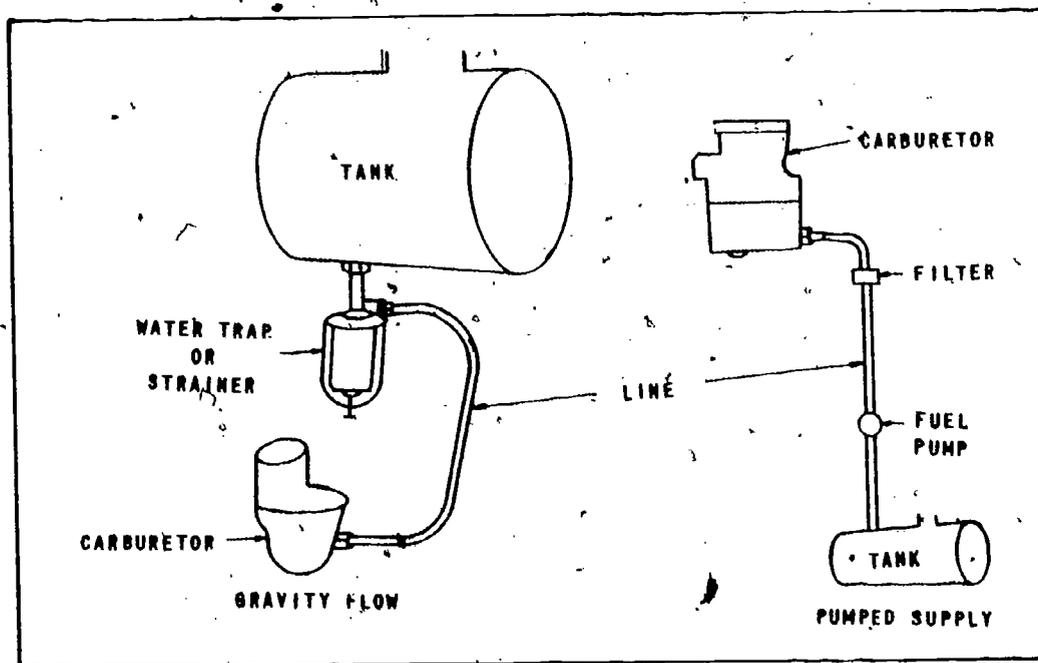

Fig 2-10. Schematic of the gasoline fuel systems.
- a. Fuel system (fig 2-10). In the gasoline engine, the fuel is mixed with the air before it enters the combustion chamber.
- (1) Fuel tank and lines. A tank made of a corrosion-resistant metal is mounted on the engine or the vehicle. The tank contains baffle plates to prevent excessive sloshing of the gasoline. Some fuel tanks are equipped with a fuel gage to indicate the amount of fuel in the tank at any given time. Fuel is carried from the tank to the carburetor through metal tubes. In areas where vibration would damage metal tubing, a flexible hose is used.
- (2) Fuel filters and strainers. An engine may be equipped with a fuel strainer or a fuel filter or with both. The fuel strainer, when used, is normally installed between the fuel tank and the fuel pump. A fuel filter is usually installed between the fuel pump and the carburetor (fig 2-10).